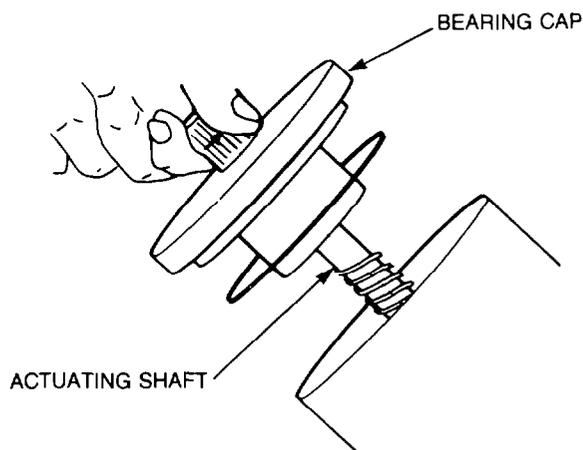

Figure 294 — Actuating Shaft — Installation
- w. Install a new O-ring on the bearing cap, then thread the actuating shaft into the valve (see Fig. 294). Align the match marks on the bearing cap and the gear housing. Turn the shaft until the cap comes into place on the end of the gear housing. Check the plunger hole alignment with the valve seat in the piston, then install and torque the bolts to 27 Nm (20 lb.ft).